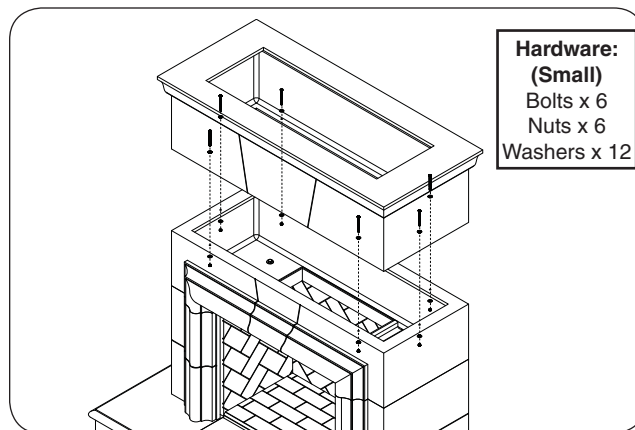

Fig. 19-2 Assemble top body
1. Place the top body piece on top of the middle body piece. Carefully align the pilot holes, and repeat the hardware installation process using the small hardware kits and two 1/2" open end wrenches (or equivalent). See Fig. 19-2.